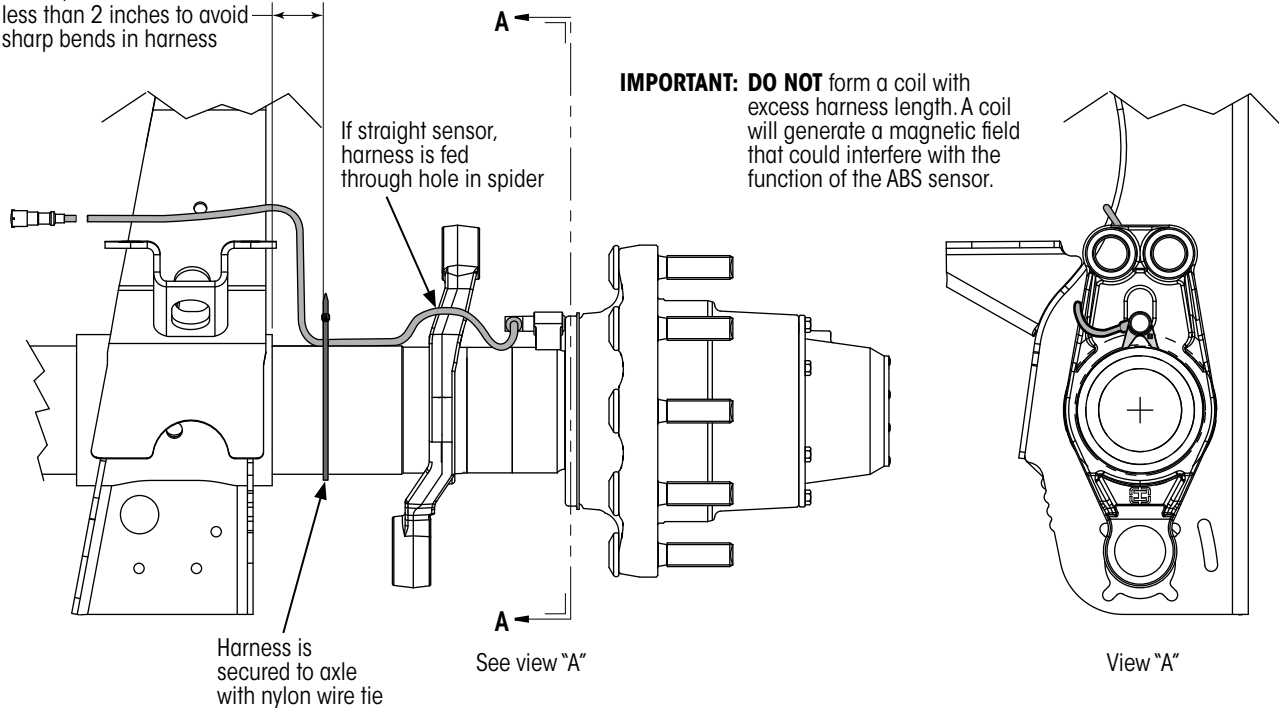

Figure 37: ABS Sensor wiring harness installation details
- If 90° sensor, fed around spider (Figure 37).
- If straight sensor, fed through the hole in the spider (Figure 37).
- Fastened securely to the axle between the beam and the spider (Figure 37) with a nylon wire tie.